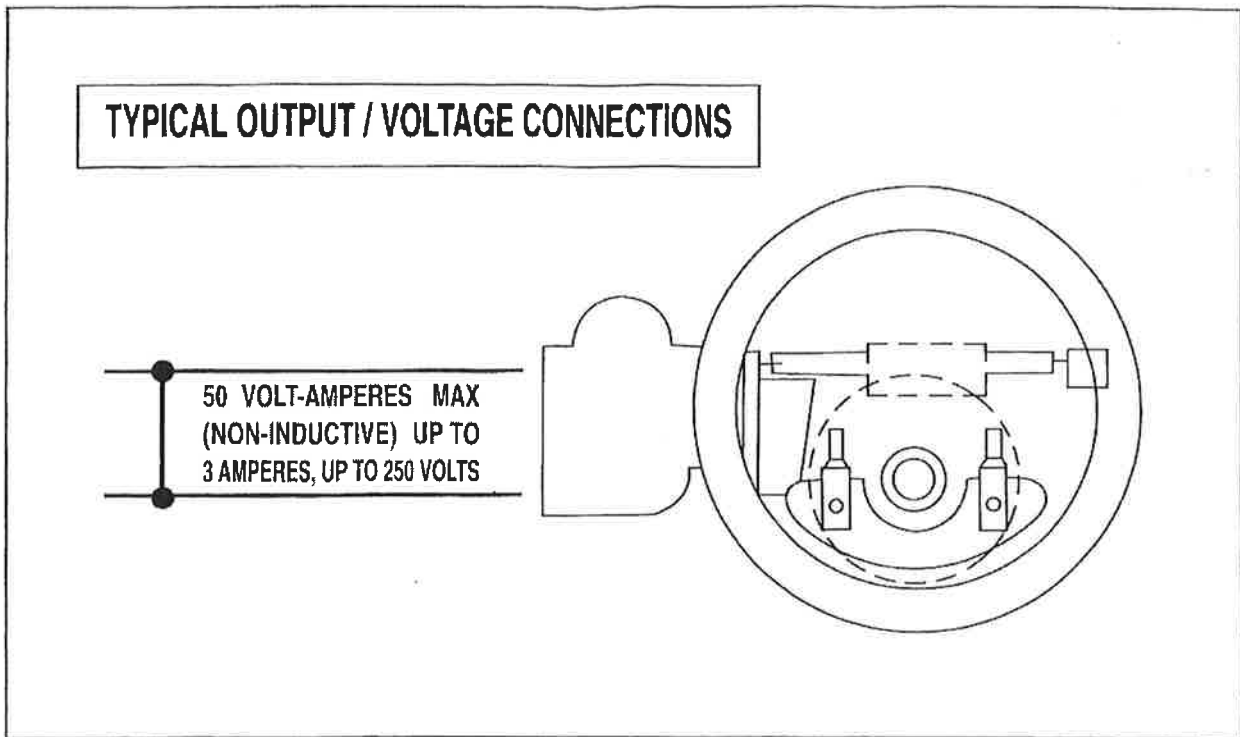

Figure 3. Typical output / voltage connections
- C. **WIRING.** See figure 3 for output and operating voltage connections.